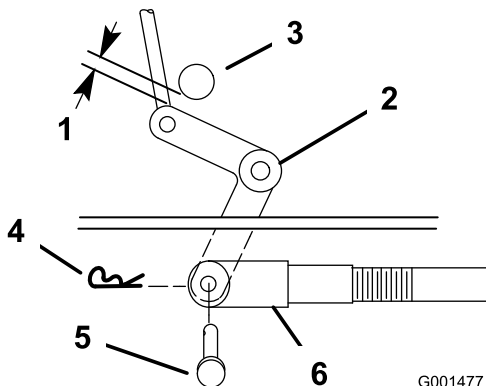
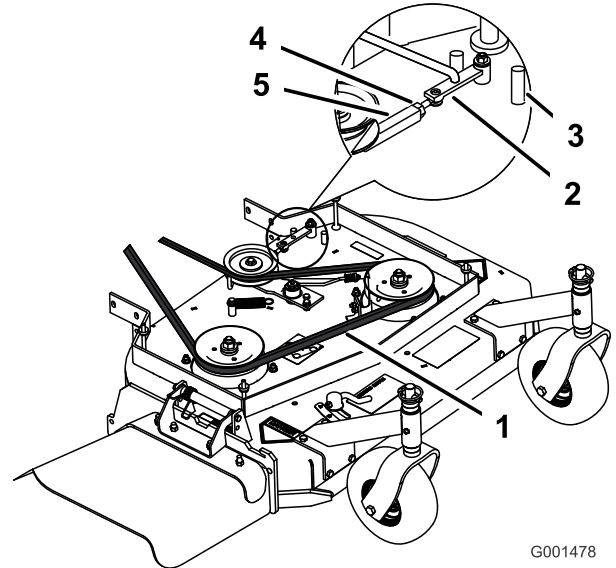

Figure 39
Figure 40
9. Check the clearance between the bell crank and transmission-output shaft (Figure 39).
10. Remove the hairpin cotter and clevis pin from the bell crank (Figure 39).
11. Rotate the clevis clockwise on the rod to increase the clearance; rotate it counterclockwise to decrease it (Figure 39).
Note: If the assist arm does not contact the front stop on the mower deck (Figure 40), adjust the clevis to bring the bell crank closer to the transmission-output shaft (Figure 39).